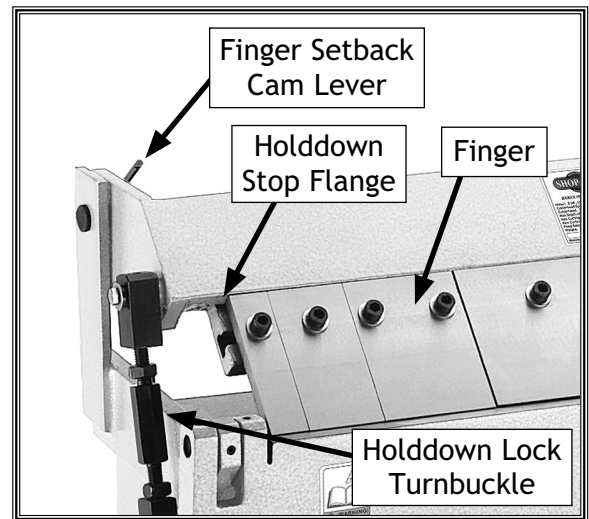

Figure 2. Fingers and turnbuckle.
1. Seat and install enough fingers against the holddown stop flange, to match the width of metal to be bent (see Figure 2).
3. Align the sheet metal bend mark with the apron edge, and lightly clamp the sheet metal in place. If the lever is hard to lock in position, adjust both holddown lock turnbuckles (see Figure 2) to accept the workpiece thickness.